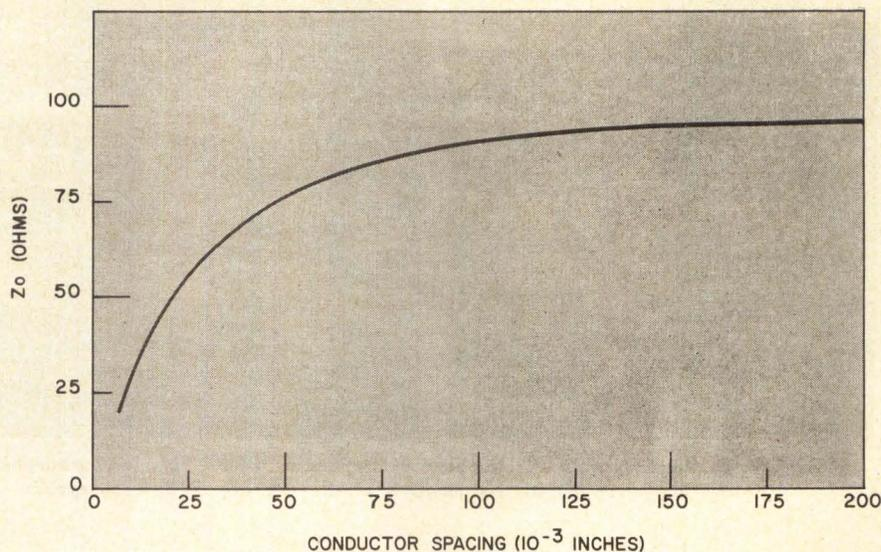

Fig. 10 Z_0 vs. conductor spacing for 1% cross-coupling
Fig. 10 shows the relationship of Z_0 , conductor edge-to-edge spacing, and cross-coupling between parallel signal lines. For any given Z_0 in Fig. 10, conductor spacings less than the one given by the curve will result in greater than 1% maximum coupling between parallel lines. The results of Fig. 10 were calculated for line widths of 0.006 inch etched from one ounce copper of 0.00125 inch thickness with epoxy glass insulation with a relative dielectric constant of 4.8. These calculations are based upon Reference 5, Eq. (22), which is based upon lines of infinitesimal thickness correction for lines of finite thickness was approximated by adjusting for the ground plane spacing of Fig. 4 for a given Z_0 . Therefore, for a given Z_0 , the ground plane spacing may be determined from Fig. 4 and the spacing of parallel conductors from Fig. 10. Review of Figs. 4 and 10 demonstrates that large values of Z_0 not only increase the volume of the multilayer board in the vertical direction but also horizontally.